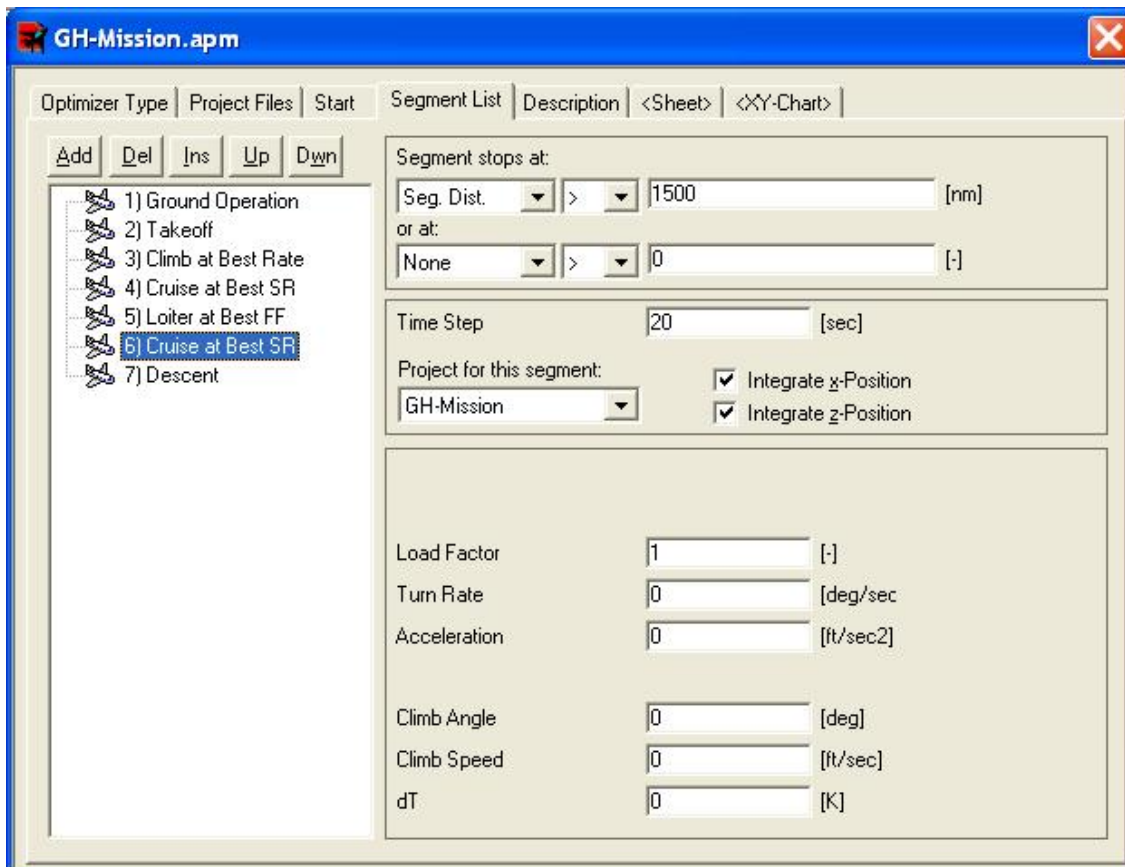

Figure 3-13. Segment List tab of Mission Module (6th Segment)
The sixth segment is cruise at best specific range (SR). Details of the third segment are shown in Figure 3-13.